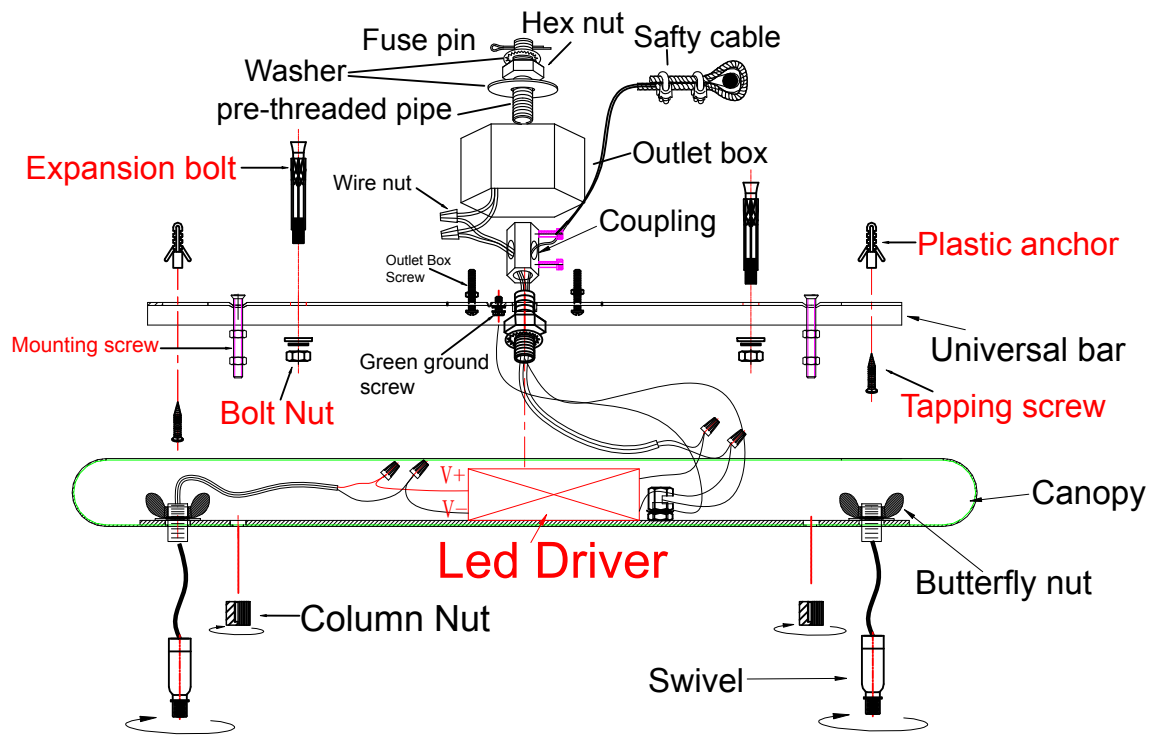

FIGURE 1
2. The weight of this fixture will require a means of support independent of the outlet box .This fixture must be supported by Pre-Threaded Pipe(J).The Pre-Threaded Pipe(J) should be positioned so that 3/4" protrudes into the outlet box cavity.
3. With the Pre-Threaded Pipe(J) properly situated, locate the Coupling (L) and proceed to thread onto the end of the Pre-Threaded Pipe(J) protruding into the outlet box. Thread the Coupling(L) onto the pipe until tight.
4. Attach the Universal Bar(C) to the Outlet Box using two Outlet Box Screws(D). (See Figure1)
5. Insert the shorter end of the Pre-Threaded Pipe(J) into the pre-drilled hole in the Universal Bar(C) and secure by turning in a clockwise direction.
7. Repeat Step 6 with the Metal Tube #2, #3 and #4 as needed for your installation height. Then using Butterfly Nuts (G) to secure Swivels(H) tightly. Please note two swivels need to adjust in same direction. If you don't need swivels, you can screw the metal tube#4 on canopy directly.
- 8.Please connect Led driver wires,connect V+ to red (+); connect V- to black(-),then wrap the wires with electrical tapes. Install the ground wire in the Universal Bar(C) with the supplied Green Ground Screw(E).
10. After the wires are connected, tuck them carefully inside the Outlet Box, attach the Canopy (A) to the Mounting screws(B) and secure with Column Nuts(S). (See Figure1)